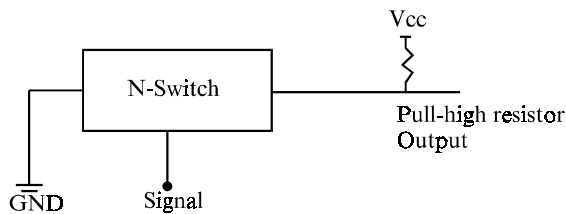

Figure 1
- 1) N-channel open drain output - DP (Figure 1).